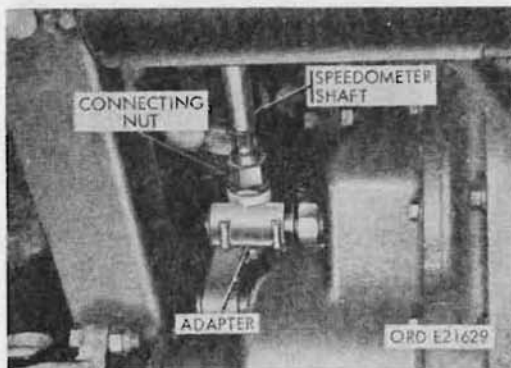

Figure 170. Speedometer flexible shaft angle drive adapter
(1) Removal. Disconnect the flexible shaft from the angle-drive adapter on the transfer (fig. 170) and from the speedometer. Disconnect the clips and remove the flexible shaft from the vehicle.
(2) Installation.
c. Speedometer Angle-drive Adapter (Fig. 170).
- (1) Removal. Disconnect the flexible shaft from the angle-drive adapter. Unscrew the adapter from the transfer.
- (2) Installation. Screw the adapter into the adapter hole in the transfer.